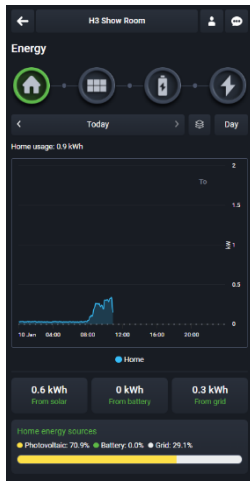

Figure 3: Energy consumption
- Graph one, shows the energy consumption in the household (see Figure 3).